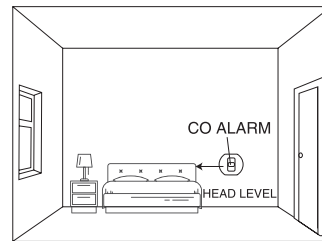

Figure 3: Installation in a bedroom or room without a fuel-burning appliance (installed at head level)
2. Installing the CO Alarm in a Bedroom or Room Without a Fuel-Burning Appliance (See Figure 3):